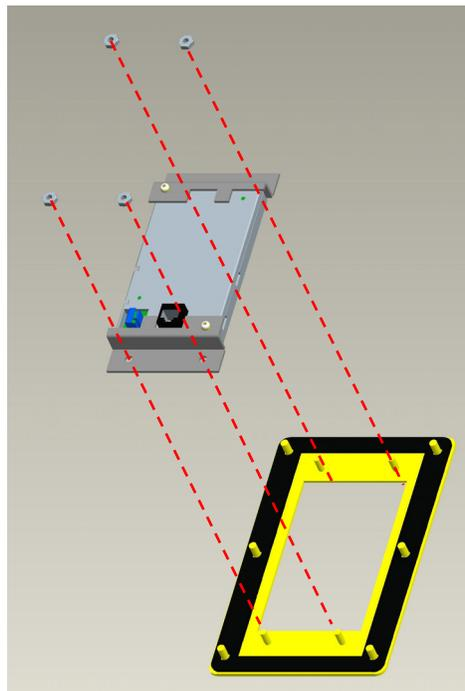

Figure 3 – Mounting Bracket Assembly
5. Mount the Z-Bracket Subassembly from the previous step to the Mounting Bracket Subassembly. Use the provided #8-32 nuts and tighten to 18 lb-in. (2.03 N-m). See Figure 3 below.